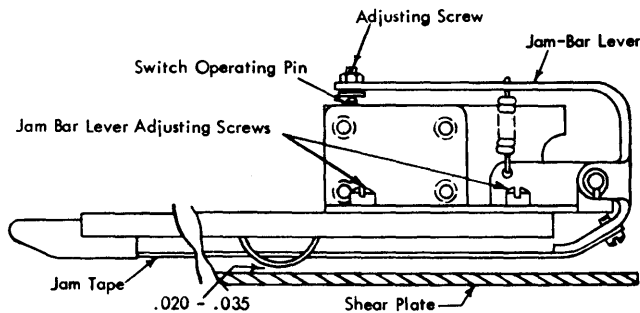

Figure 4-9. Jam Bar
1. The jam bar must be positioned for .020" to .035" clearance between the formed points and the lower card guides or shear plates over the entire length of the card transport and at the junction of the jam bar and jam bar lever (Figure 4-9).